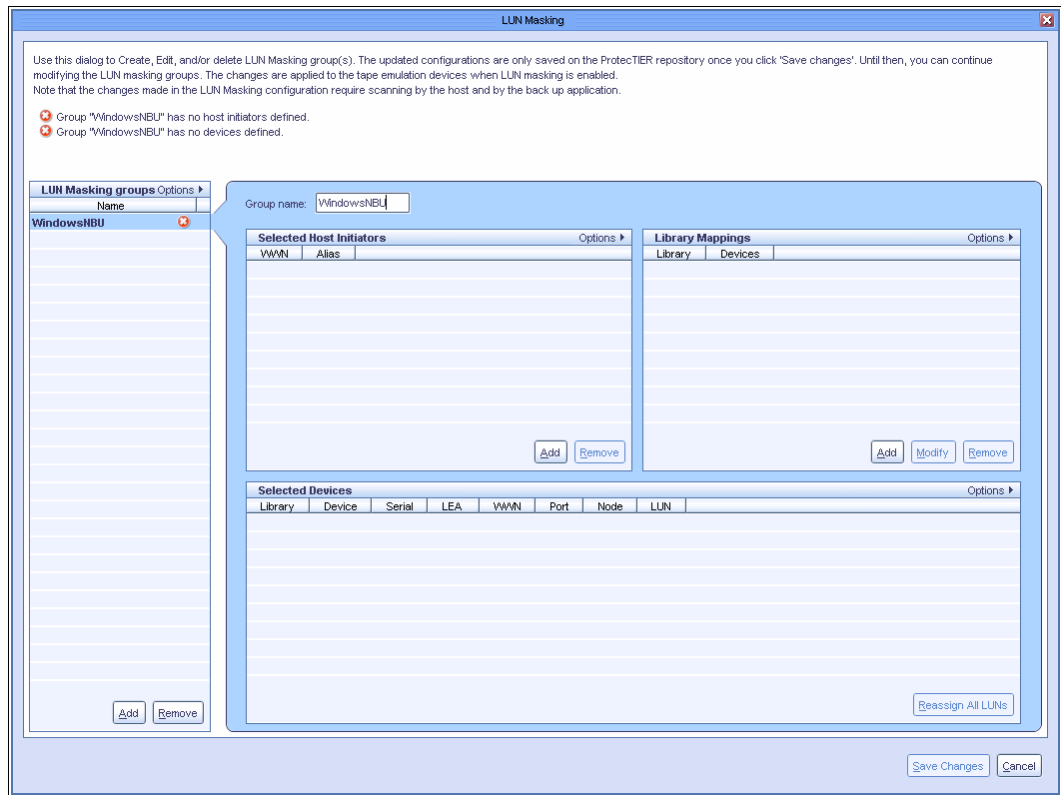

Figure 6-9 LUN Masking
3. Enter a new name for the group in the Group name field, as shown in Figure 6-9.